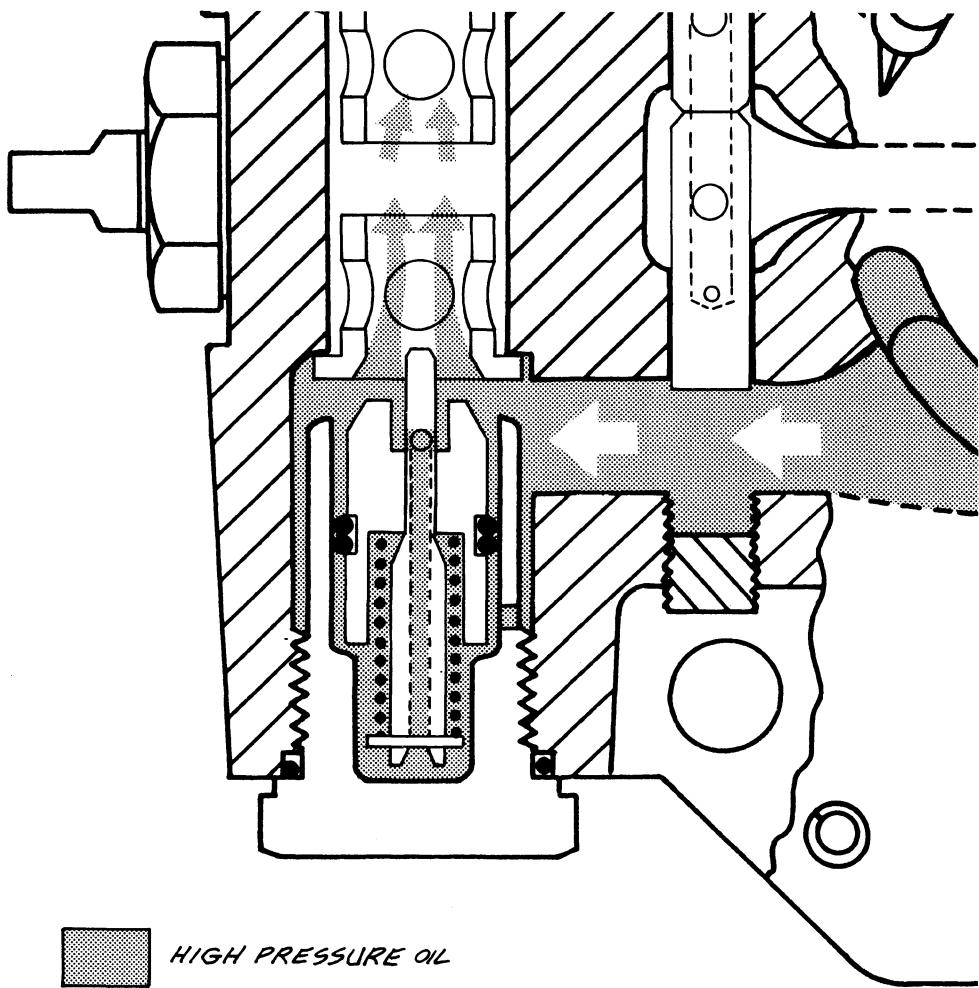

FIGURE 12
(4) High pressure oil in the closed loop forces the valve body off the seat, Figure 12.